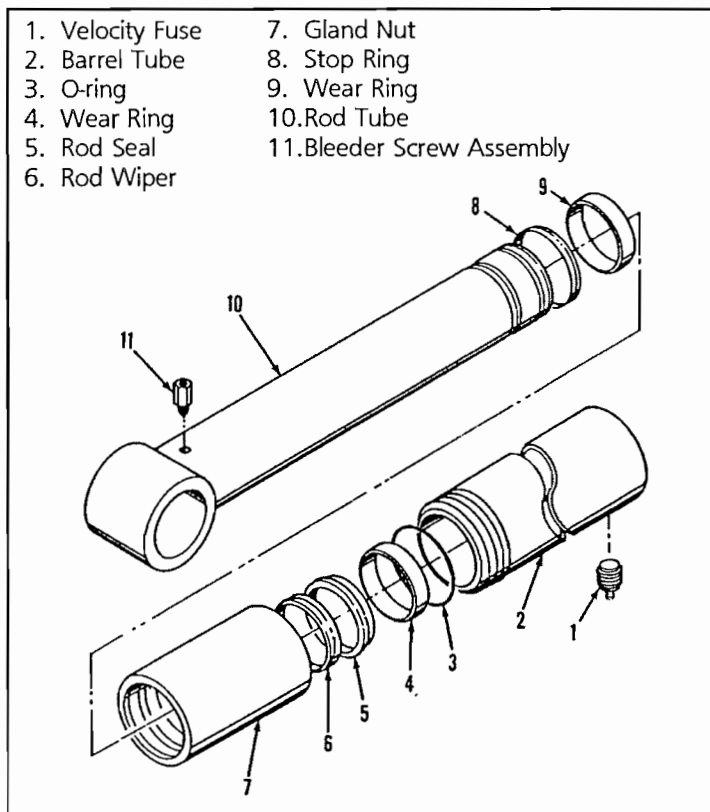

Figure 4-15: Lift Cylinder Assembly
DISASSEMBLY (FIGURE 4-15)
REASSEMBLY (Figure 4-15)
7. Operate the hydraulic lift circuit with the bleeder screw (Figure 4-15) loose to allow trapped air to escape the lift cylinder. Once hydraulic fluid flows continuously from bleed port, tighten the bleeder screw. Check for leaks.